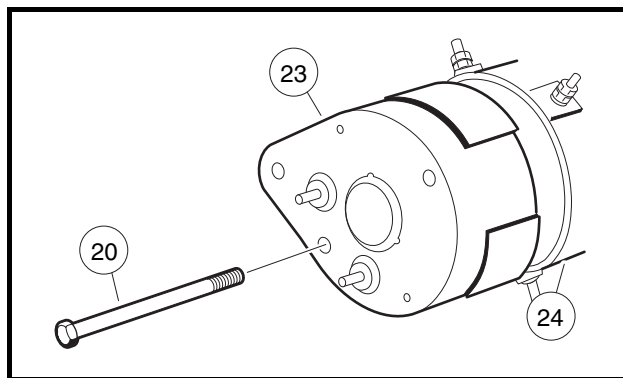

Figure 14-2 Commutator End Cover
- Remove the two bolts (20) and pull commutator end cover (23) free of starter/generator housing (24) (**Figure 14-2, Page 14-2**). See following **NOTE**.
3. Install the commutator end cover (23) onto the armature shaft. Align the locating pin with the pin hole in the cover. Install two M6 x 180 mm bolts (20) and tighten to 100 in-lb (11.3 N·m) (**Figure 14-2, Page 14-2**).
2. Remove the two bolts (20), and pull commutator end cover (23) free of the starter/generator housing (24) (**Figure 14-2, Page 14-2**).
9. Install the commutator end cover (23) onto the armature shaft. Align the locating pin with the pin hole in the cover. Install the two M6 x 180 mm bolts (20), and tighten to 100 in-lb (11.3 N·m) (**Figure 14-2, Page 14-2**).